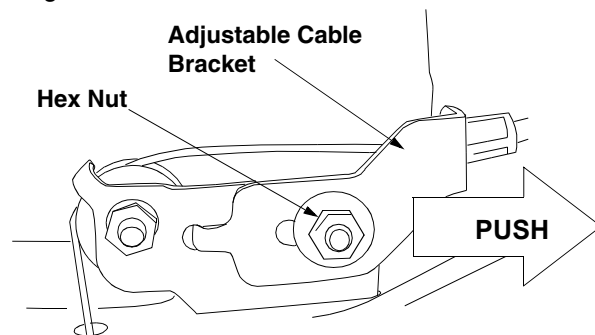

Figure 16
- Loosen hex nut which secures the adjustable cable bracket. See Figure 16.